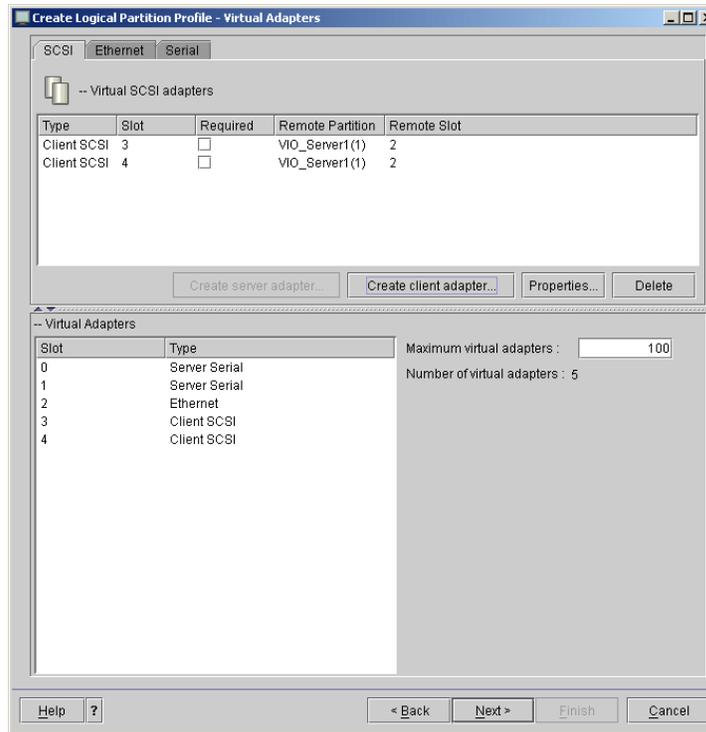

Figure 3-38 Virtual adapters window
9. When you have completed adding virtual adapters, you will see a window similar to Figure 3-38.